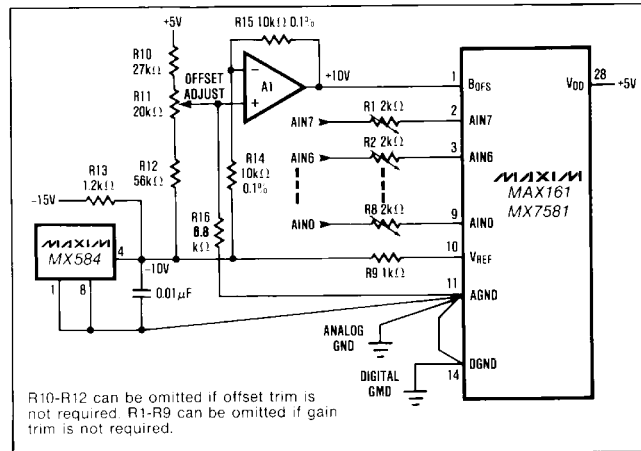

Figure 7. Unipolar (0 to -10V) Operation
**Note 4.**  $R_{BOFS}/R_{AIN}$  mismatch causes transfer function rotation about positive full scale. The effect is an offset and a gain term when using the circuits of Figure 7 and 9.
Figures 7 and 8 show the analog circuit connections and typical transfer characteristic for unipolar (0 to -10V input) complementary binary operation. Calibration is as follows: